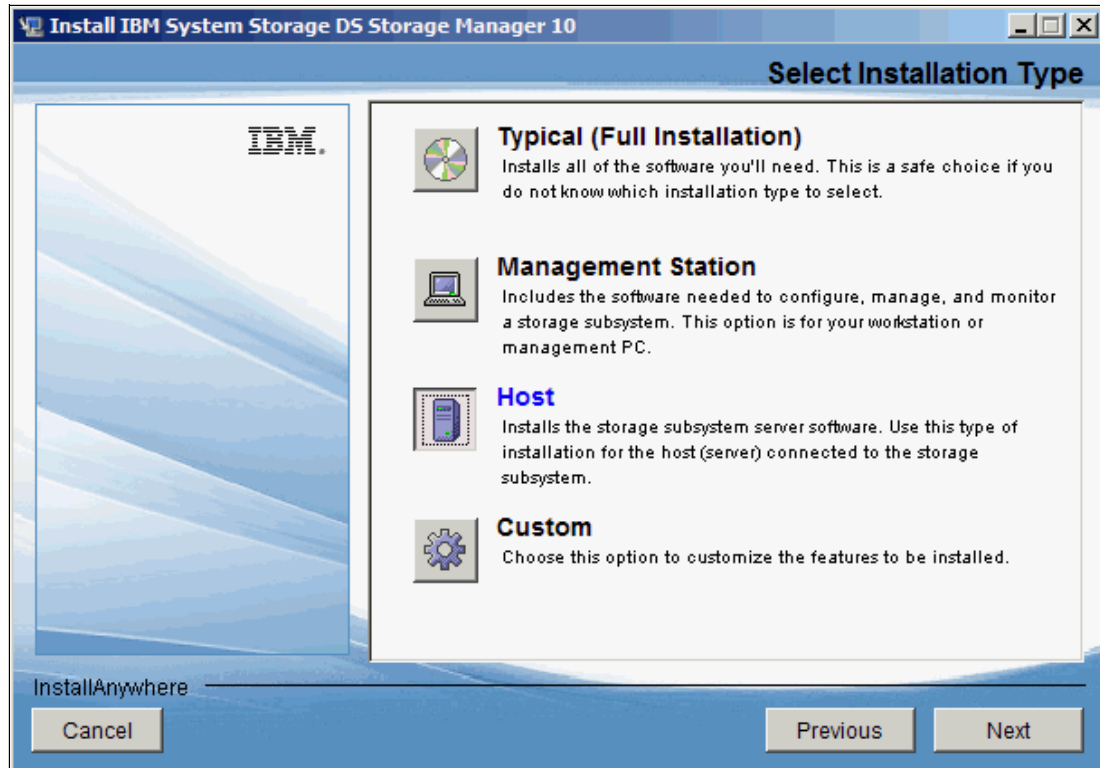

Figure 19-8 Multipath driver installation
1. Start Storage Manager on your host server. A detailed description for installing the Storage Manager is given in Chapter 5, “Installing IBM System Storage DS Storage Manager” on page 131. Follow the steps, select either the **Host** installation type or **Custom** installation (Figure 19-8 on page 563), and click **Next**.